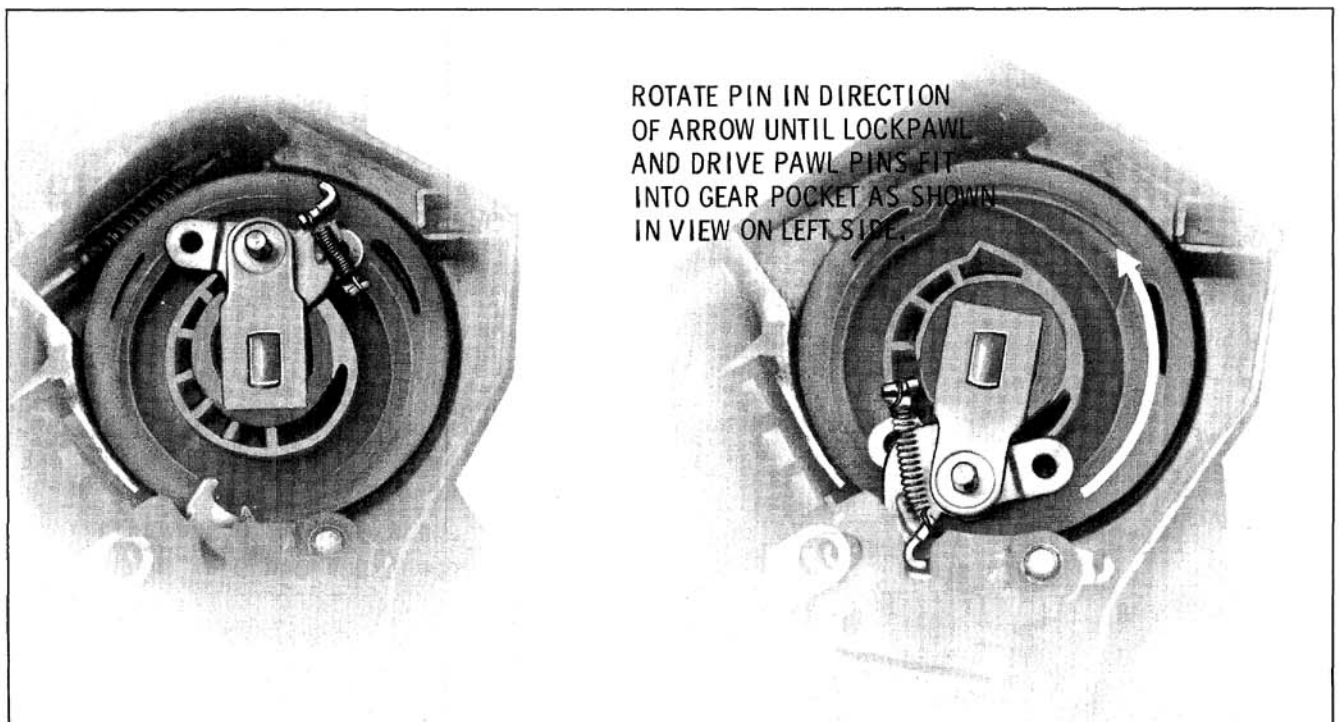

Fig. 13-194 Lock Pawl and Drive Pin Positioning
4. Holding the gear, manually rotate the drive plate in the direction of the arrow until the drive and lock pawl guide pins snap into their respective pockets in the gear. (Fig. 13-194)
5. Reinstall coil spring between lock and drive pawls. (Fig. 13-194)